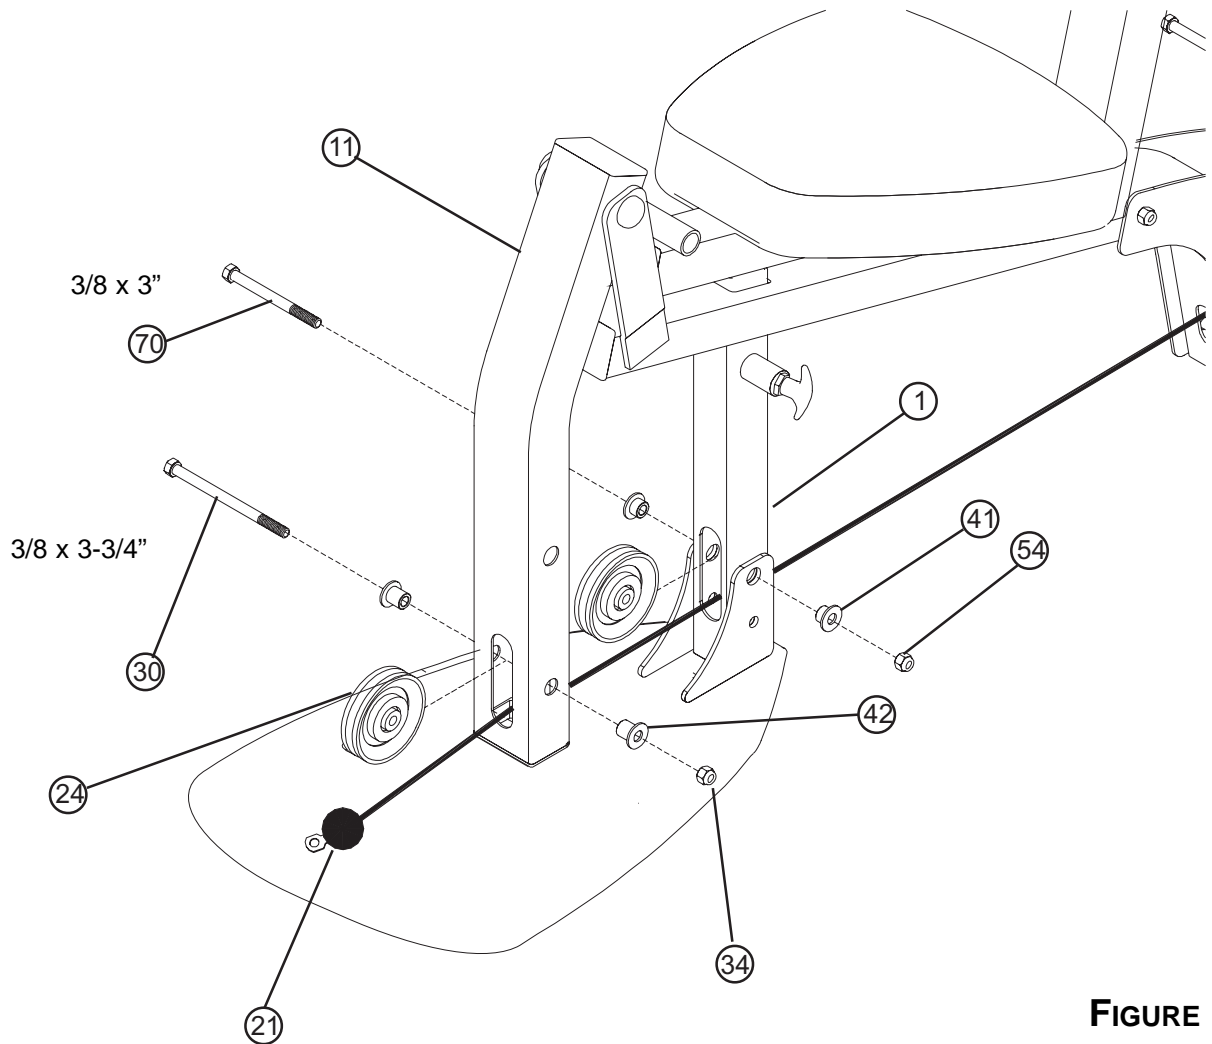

FIGURE 16
- **CABLE MUST BE POSITIONED BETWEEN THE PULLEY AND THE LOWER BOLT ASSEMBLY ON THE LEG PEDESTAL (11) AND THE FRAME (1).**
- Securely assemble the ball end of the LOW CABLE (21) and one 3-1/2” PULLEY (24) to the LEG PEDESTAL (11) using one 3/8 X 3-3/4” BOLT (30), two 3/8” X 1-1/16” FLANGE SPACERS (42), two 3/8” WASHERS (36), and one 3/8” LOCK NUT (34).
- Securely assemble one 3-1/2” PULLEY (24) and two 3/8 X 3/4 FLANGE SPACERS (41) to the FRAME (1) using one 3/8 X 3” BLACK BOLT (70) and one 3/8” BLACK LOCK NUT (54).
- Note:** The LEG CABLE (21) should be routed over the retaining bolt as shown in FIGURE 16.